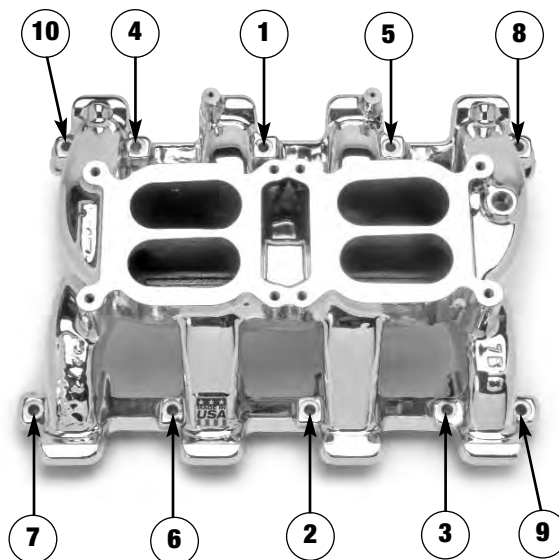
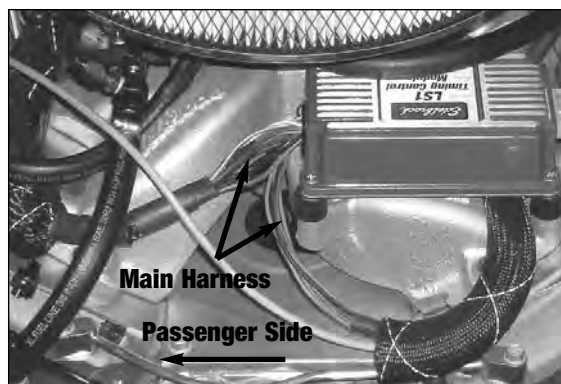

Figure 1 - Intake Manifold Tightening Sequence
Figure 4 - Timing Control Module Mounting
1. (**Note:** Use only original equipment (GM P/N 12533587) O-Ring type gaskets when installing this intake manifold). No gasket sealer is required when using the OEM type gaskets. Install eight of the supplied 6mm x 50mm hex head bolts and 1/4" AN washers, into all of the manifold bolt holes except for the two rear driver's side bolt holes (hand tighten only). Using the remaining two 6mm x 50mm bolts and AN washers, attach the GEN III Throttle Bracket Base to the two rear driver's side manifold bolt holes (hand tighten only). Following the torque sequence in **Figure 1**, torque all manifold bolts to 11 ft/lbs.
3. Apply a bit of liquid Teflon thread sealant to the threads of the supplied 1/8" NPT to 1/4" hose fitting and install the fitting into the 1/8" NPT hole in the passenger side of the plenum (**See Figure 1**). Install your carburetors (Use only recommended carburetors for best performance) and using one of the passenger side carburetor stud/nuts, attach the MAP sensor and bracket to the carburetor (**See Figure 3**). Connect the sensor to the fitting with the supplied 1/4" hose.
1. Using the supplied hardware included with the Timing Control Module, attach the module to the four #10-32 mounting holes on the Performer RPM intake manifold (**See Figure 1**). Mount the module so that the main harness will face towards the passenger side (**See Figure 4**).